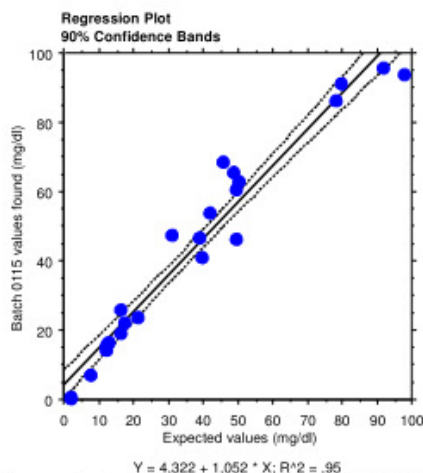

Figure 2: Correlation curve ELISA/LEIA
**Correlation:** Values obtained with the Lipoprotein (a) ELISA showed a very good correlation with values obtained by turbidimetric methods (see figure 2).